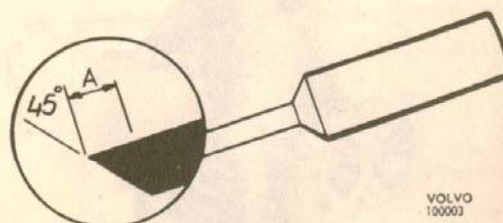

Fig. 1-85. Punch
6. Upset the material round each valve in four places, see Fig. 1-84, with a punch as shown in the figure 1-85.